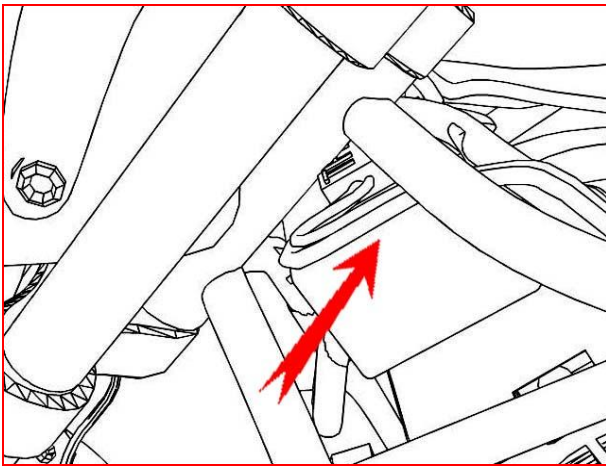

Figure 14
18. Pull excess slack in TFI harness back to front. (fig 14)